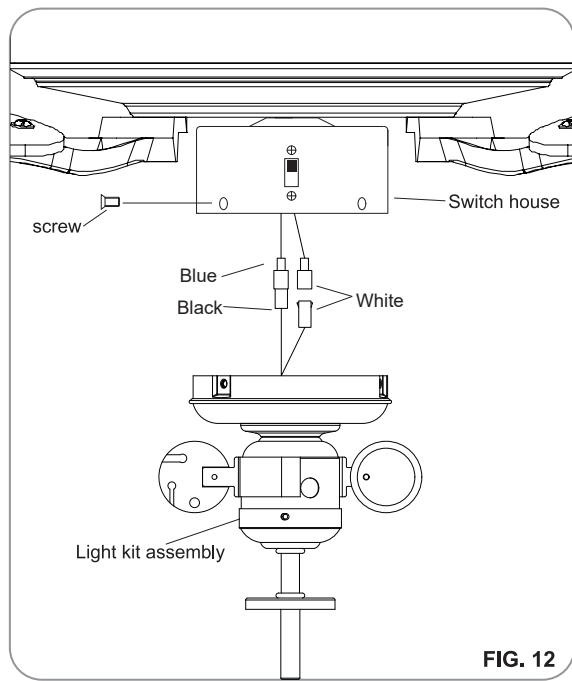

FIG. 12
Step 3. Fasten the blade bracket to fan motor assembly by using the blade bracket screws. Tighten the screws securely, Repeat this procedure with the remaining blade assemblies. (Fig. 12)
Step 1. Remove the three screws from the light kit assembly. While holding the light kit assembly under your fan. Connect white wire from motor to white wire from light kit assembly, Connect blue wire from motor to black wire from light kit assembly.(Fig.12)